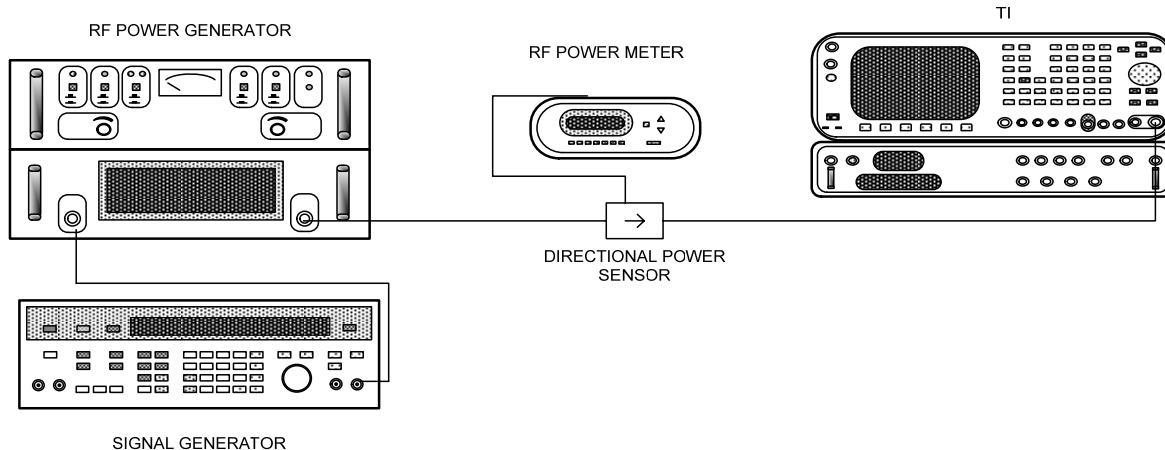

Figure 7. Power meter setup (1W - 200W range).
(11) Reduce signal generator and RF power amplifier outputs to minimum and disconnect equipment setup.
(12) Connect equipment as shown in figure 7.
(18) Connect equipment as shown in figure 7.
(28) Adjust signal generator frequency to 85 MHz. Adjust signal generator and RF power amplifier output until measuring receiver indicates exactly 33 dB minus 10 dB attenuator (fixed) test report value.
(29) Disconnect RF power amplifier and 10 dB attenuator (fixed) from measuring receiver. Connect RF power amplifier **OUTPUT** to TI T/R using 10 dB attenuator (fixed).
(30) Press **Range (F1)** key repeatedly to select **2 W** range, and press **DATA ENTRY ENTER** key.
(31) Press key sequence listed in (a) through (e) below:
(32) Press **Range (F1)** (power meter range mode) repeatedly to select **200 W** range and press **DATA ENTRY ENTER** (200 W range) key.
(33) Connect equipment as shown in figure 7.
(34) Adjust signal generator frequency to 200 MHz. Adjust signal generator and RF power amplifier output to 50W.
(35) Press key sequence listed in (a) through (f) below:
(36) Press **MODE RF GEN** (MODE RF GEN Display); when prompted for backup data, press **SHIFT** and **Y** keys (Backup Cal Data ? y/n).
(37) Disconnect all test equipment.